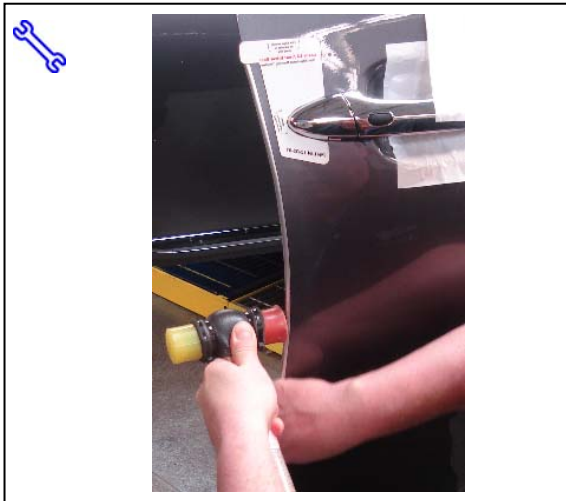

Fig. 1-16
- (o) Continue progressively tapping channel onto door edge proceeding down the entire length of the DEG. Use your other hand to steady and guide the DEG as you go. (Fig.1-16)